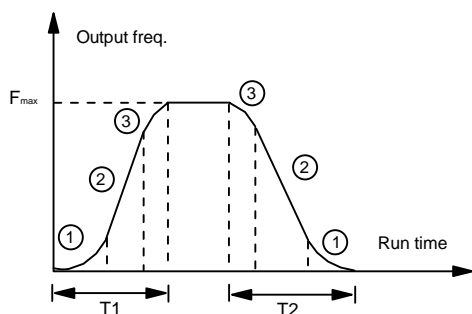

Figure 6-12 S Curve Acc/Dec
In Acc/Dec process, the relationship between output frequency and Acc/Dec time is nonlinear. The output frequency increases or decreases according to the S curve shown in Figure 6-12.
S curve start time is shown in Figure 6-12 as ①, which is the stage when the slope of output frequency rises gradually.
S curve rise time is shown in Figure 6-12 as ②, which is the stage when the slope of output frequency maintains Phase.
S curve end time is shown in Figure 6-12 as ③, which is the stage when the slope of output frequency decreases to zero.